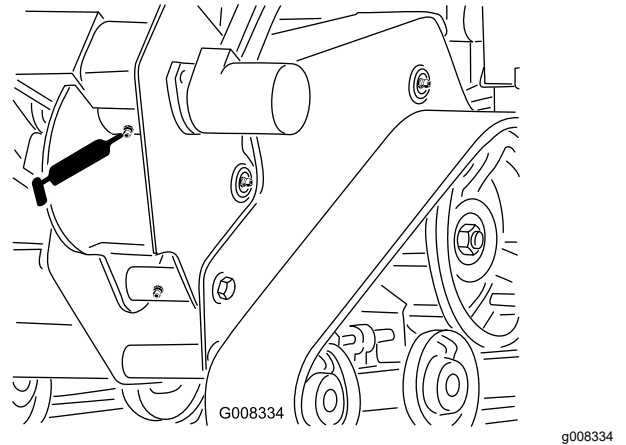

Figure 27
3. Clean the trencher housing grease fitting with a rag and connect a grease gun to it (Figure 27).